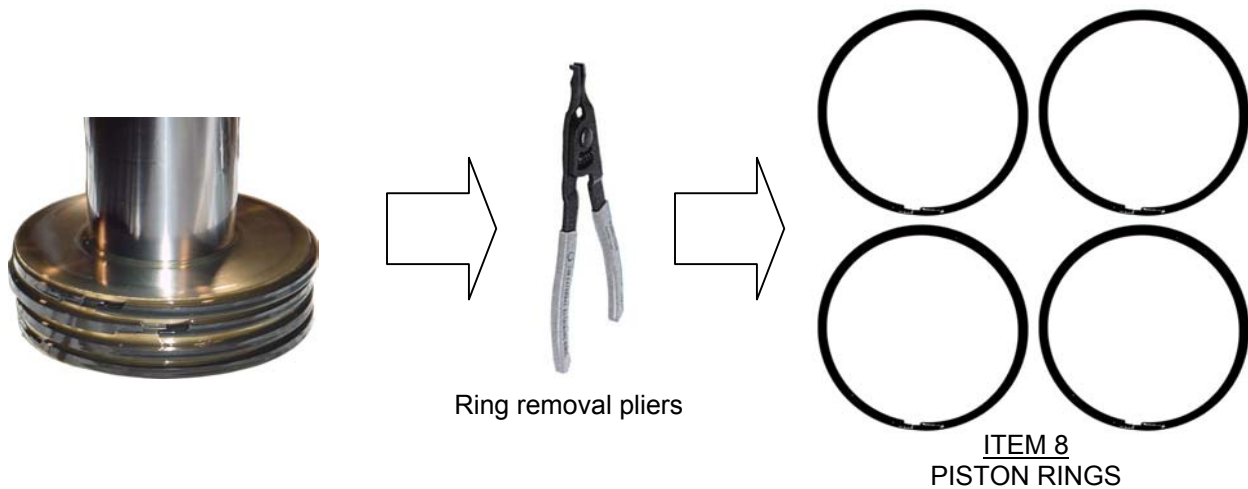

FIGURE 13
To remove the (4) piston rings (Item 8) use ring removal pliers. Inspect the piston and smooth any scratched surface using fine grit emery cloth. See Figure 13.